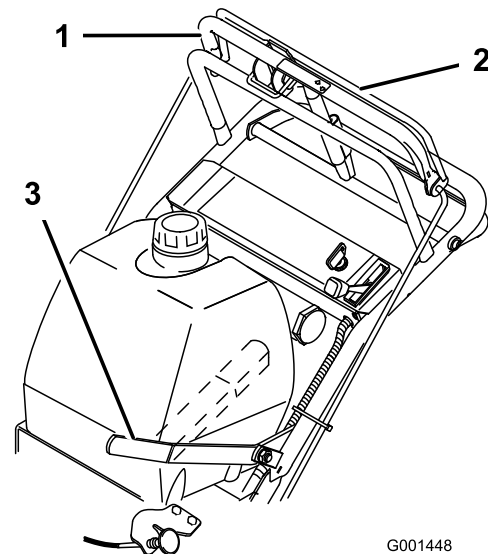

Figure 8
- To engage the blades, squeeze blade control bail against the upper control bar (Figure 8).
To disengage the blades, pull the blade control lever rearward all the way (Figure 8). The engine will kill when the blade control bail is released with the blade control lever engaged.